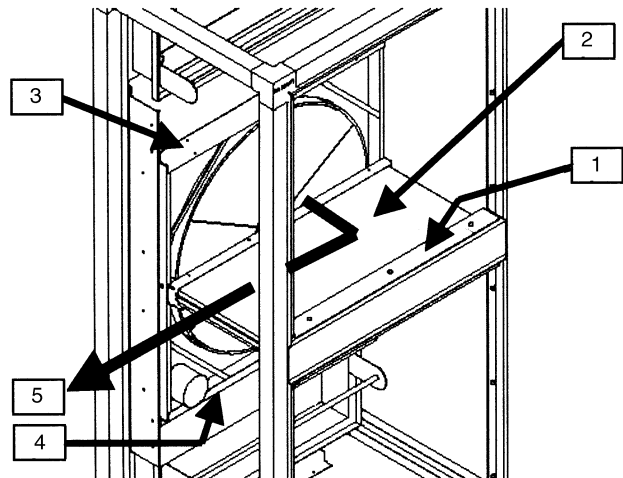

Fig. 79 — Remove Wheel for Cleaning (Sizes 03-06 Only)
To clean wheels (size 03-06) use the procedure and refer to Fig. 79:
4. Refer to Fig. 79. Remove wheel center partition hold-down bracket (1).
5. Lift and Remove wheel center partition (2).